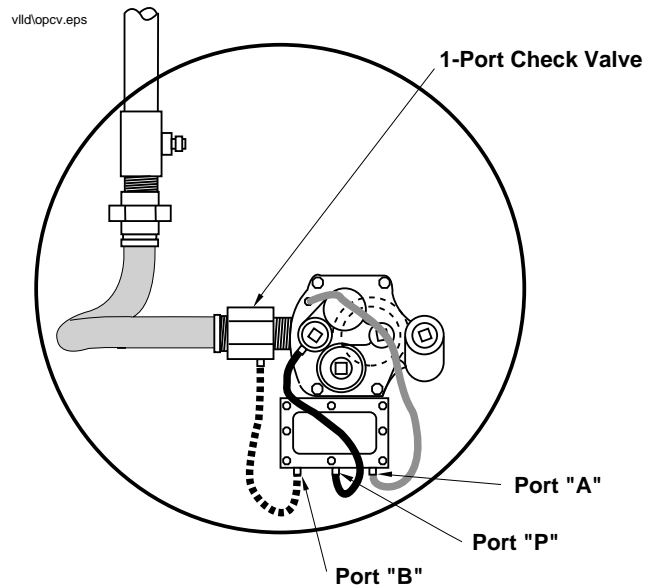

Figure 6. One-Port Check Valve
- One-port check valve with one tubing connection to the controller and two to the STP [Figure 6 on page 10]